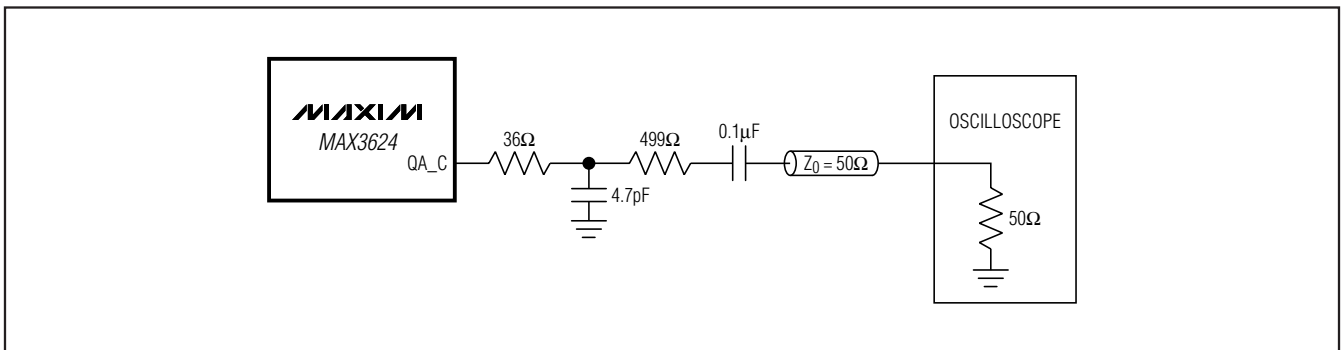

Figure 1. LVCMOS Output Measurement Setup
- Note 6:** Measured using setup shown in Figure 1 with $V_{CC} = 3.3V \pm 5\%$.